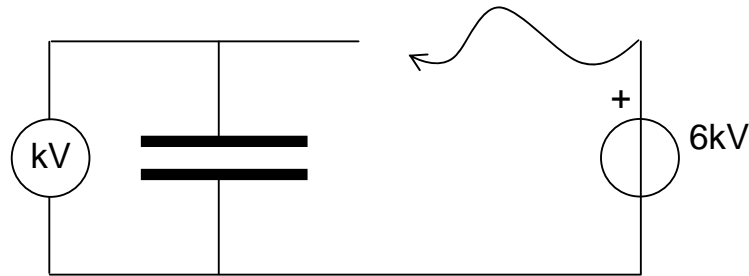

Figure 1
**Presentation:** The setup of the demonstration is explained to the students. The plates are set at minimum distance, just separated by the Teflon strip (see Figure 1). This strip prevents that, when shifting the moveable capacitor plate you come too close to the fixed plate.
**1.** The capacitor is charged by just touching the capacitor with the free lead of the 6kV power supply (see Figure 1). After this charging of the capacitor, the voltmeter reads 6kV.